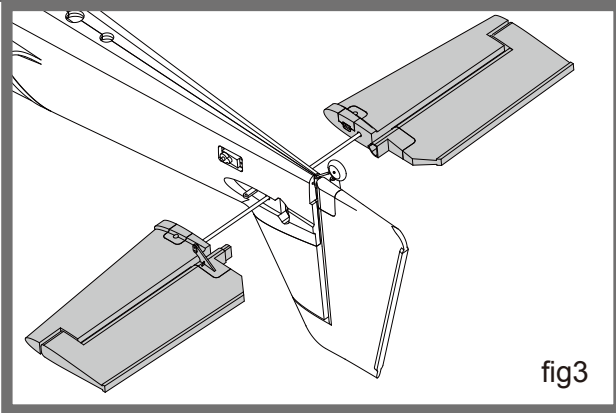

fig3
2. Unpack the elevator parts bag and assemble PA 2.3*10 mm and connecting pipe as shown in Figure 3 and 4.